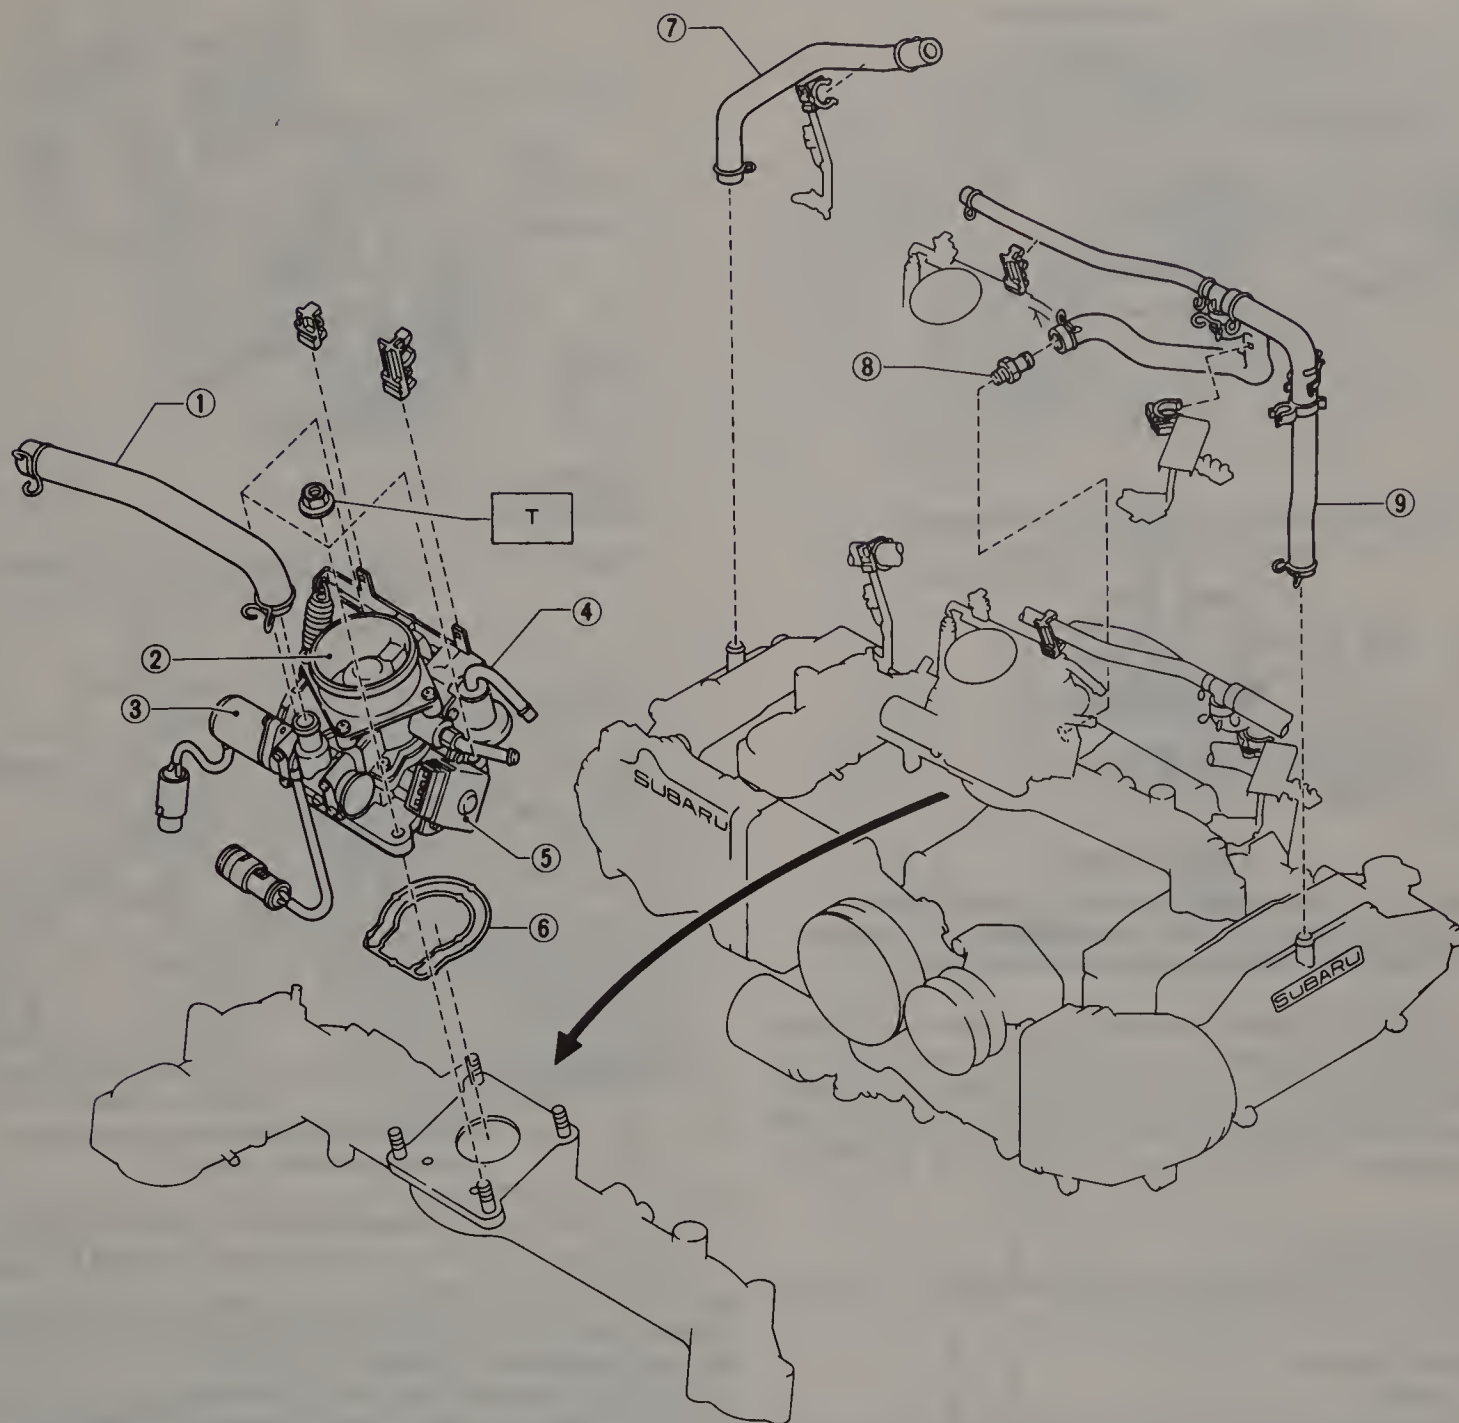

Fig. 13.42 Throttle chamber and related components — exploded view (Sec 8)
- 46 Loosen the hose clamps securing the air intake boot and remove the boot (connected to the air flow meter and the throttle chamber assembly) (Fig. 13.42).